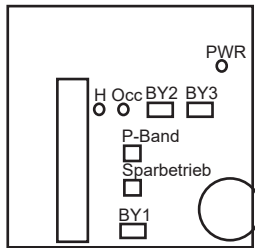

Abb. 2
AL24A1T has a green LED (PWR) which indicates supply power (see figure 2). There is also a red LED (H) which indicated heating/cooling function. If the LED is lit, the controller is set in heating function. If it is not lit, the controller is set in cooling function.